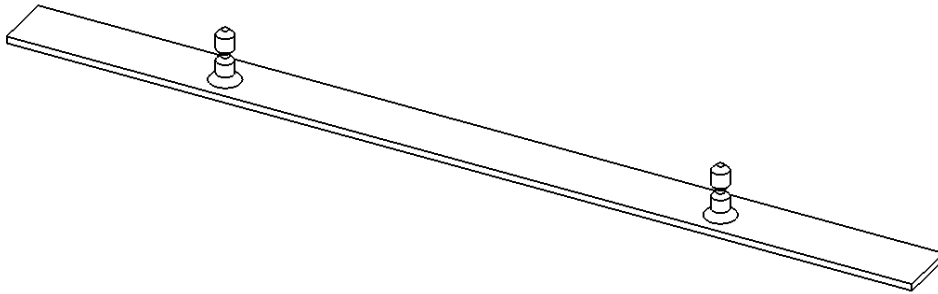
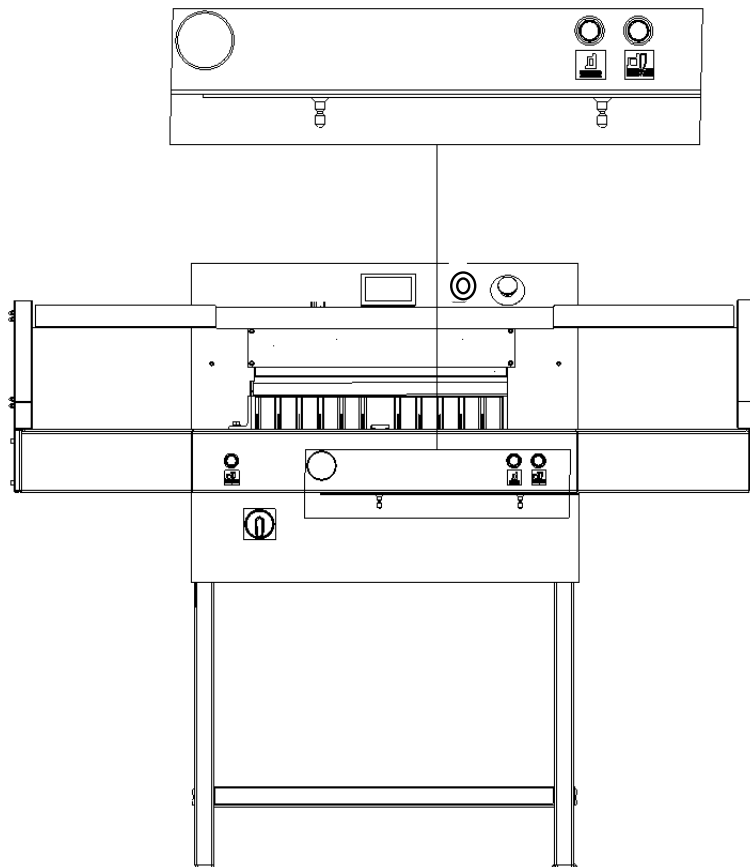

Figure 37. False clamp plate (insert)
Figure 38. Placement of the insert before attachment in the pressure bar
The pressure beam insert (fig. 37) is attached under the front table in the place shown in figure 38.
**The removable insert must be attached under the front table! (Fig. 38).**